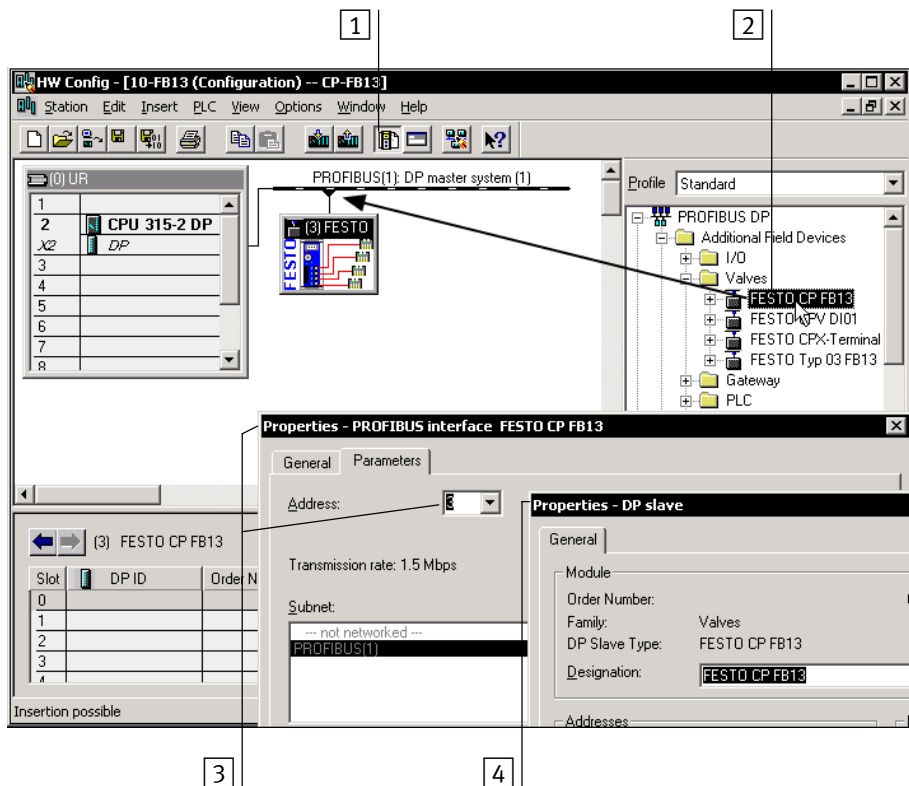

Fig. 2/3: Station selection with STEP 7 – HW Config
1. Click on the icon of the valve terminal to be configured in Hardware config. (see Fig. 2/4 1). The configuration table will be displayed under the rack 2.